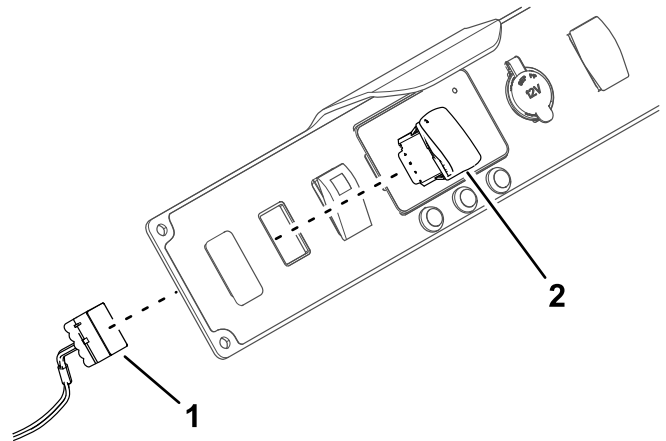

Figure 12
- 10. Remove the second plug on the console plate and install the switch (Figure 12). Connect the wire harness to the switch.